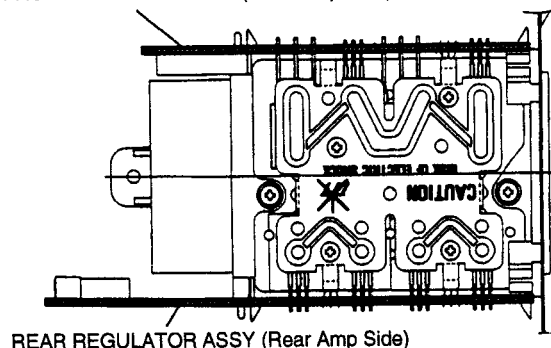

Fig. 2-1 PCB Location of Power Amp Module
4.2 POWER AMP MODULE SECTION (REFER TO FIG. 2-1.)